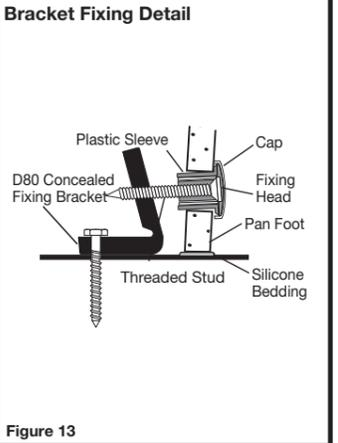

Figure 13
- 7- Connect pan/closet to connector and locate plastic fixing sleeve into holes in the pan/closet. Fit the two fixing bolts through the sleeves into the bracket. Tighten fixing bolts with a 1/4" Allen key (not supplied) to bed pan/closet to floor while ensuring level, as detailed in Fig. 13. **IMPORTANT-DO NOT OVER TIGHTEN, AS THIS MAY CRACK THE PAN/CLOSET FOOT.** Snap on plastic cap (supplied), as detailed in Fig. 13.